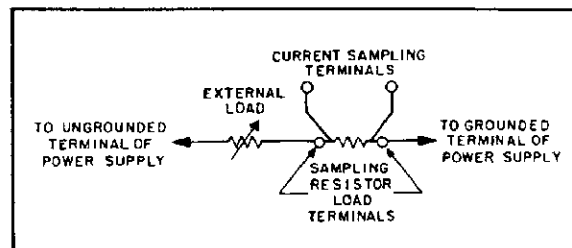

Figure 5-2. Current Sampling Resistor Connections
**5-14** Figure 5-2 shows a four terminal meter shunt. The load current through a shunt must be fed to the extremes of the wire leading to the resistor while the sampling connections are made as close as possible to the resistance portion itself.